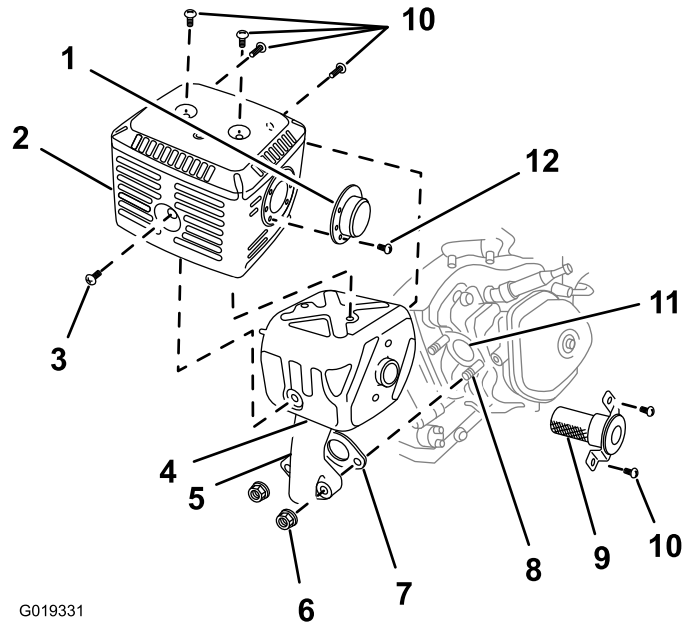

Figure 47
5. Remove the 2 nuts (8 mm) and remove the muffler from the cylinder (Figure 47).
6. Remove the 3 screws (4 mm) from the exhaust deflector, and remove the deflector (Figure 47).
7. Remove the screws (5 mm and 6 mm) from the muffler protector, and remove the muffler protector (Figure 47).
8. Remove the screws (4 mm) from the spark arrester, and remove the spark arrester from the muffler (Figure 47).